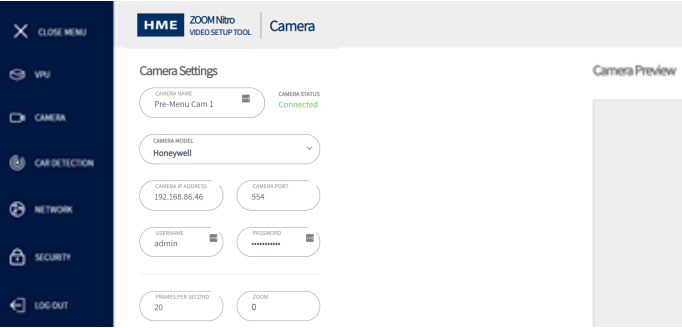

Fig. 4.1
6. Go to the CAMERA Page, the system will display the Camera Settings as shown in Fig. 4.1, verify or set the following fields to match the content in Table 4.1 under Value/Description. Do not change any values except Camera Name unless the camera is not auto-detected.